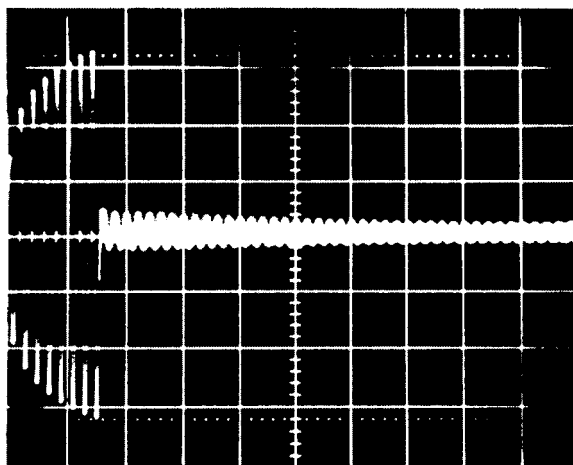

Figure 10a
7.2.3.2 Observe the output on the scope. Verify that the shape is substantially as shown in Fig. 10a; confirm for the other channel.